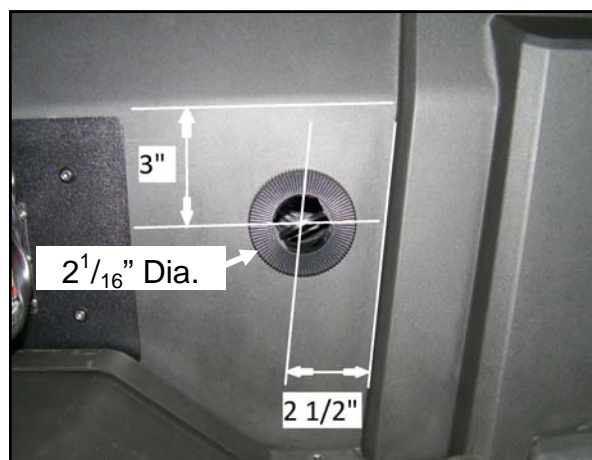

FIGURE 1.2 (Under dash Vent Location)
2. Drill one (1) 2 1/16" hole in the underside of driver's side of the dashboard as shown in Figure 1.2.